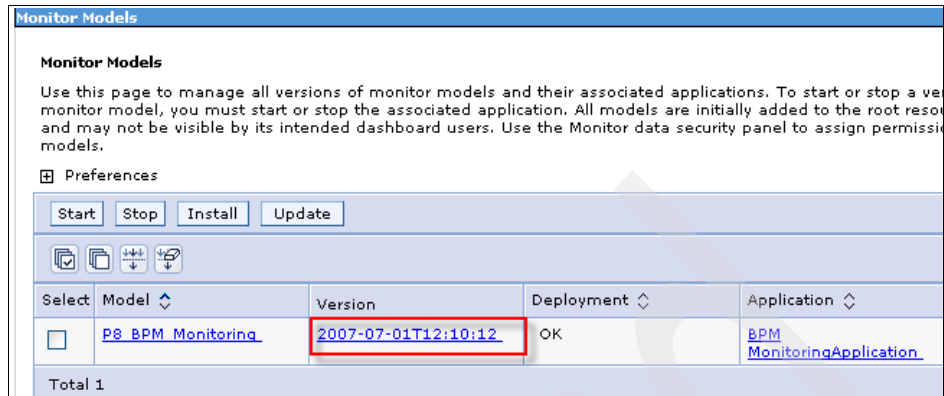

Figure 3-49 Monitor Models
2. In the Monitor Models panel (Figure 3-49 on page 106), click the previous version.